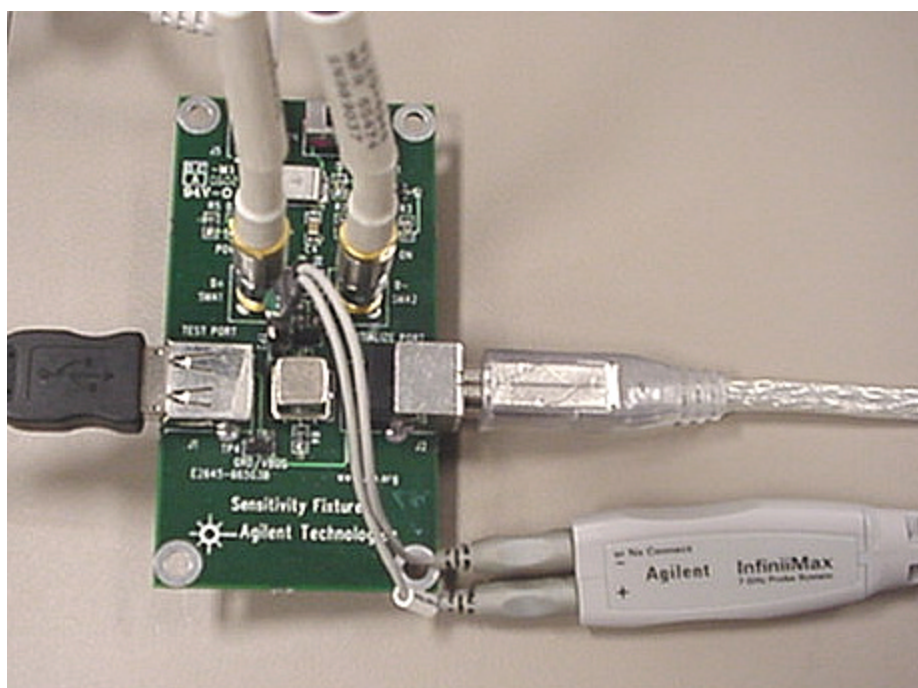

Figure 30. Probe Connection for Sensitivity Test
- b. Connect OUTPUT 1 to SMA1 (D+), and OUTPUT 2 to SMA2 (D-) of the Device Receiver Sensitivity test fixture using the SMA cables. (Figure 30)
- b. Ensure that the + input of the probe is connected to D+, located nearest the USB connector (Figure 30)